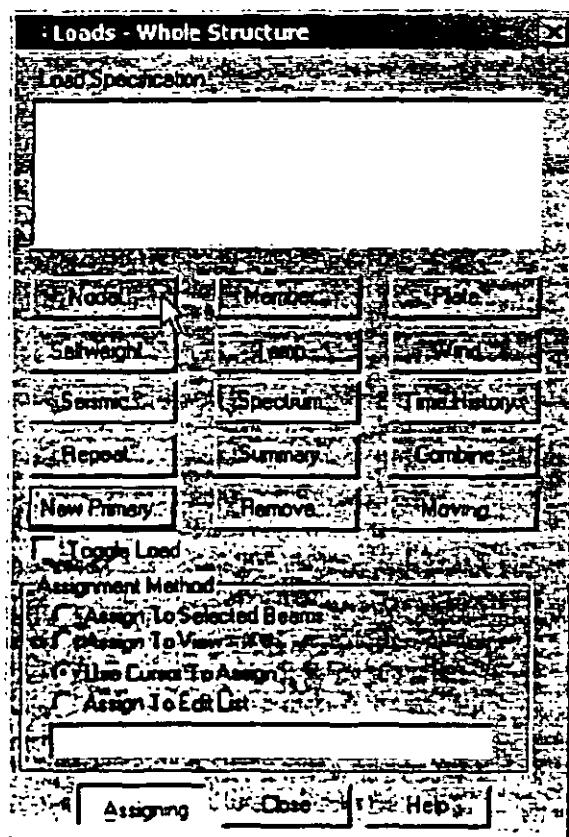

Figure 3.72
- 12 In the *Node Loads* dialog box that comes up, enter 5.0 for *Fx*. We can straightaway click on the *Assign* button to apply these loads on the selected joints. Remember, you can also use the other assignment choices listed in Figure 3.72 depending on the situation.